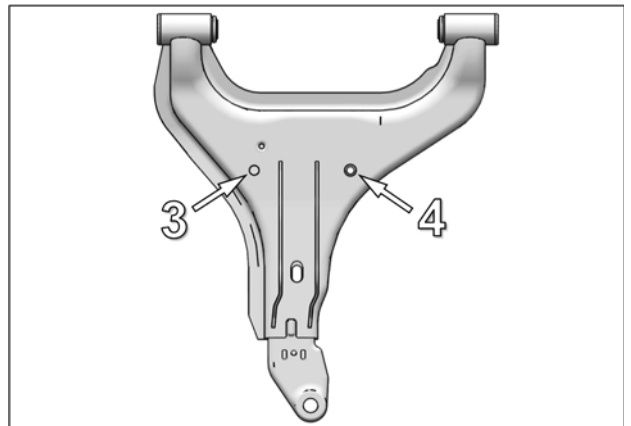

Fig. 16
5. Drill out existing holes (3) and (4) to  $\text{Ø } 8,5 \text{ mm}$  [Ø11/32"]. Fig. 16